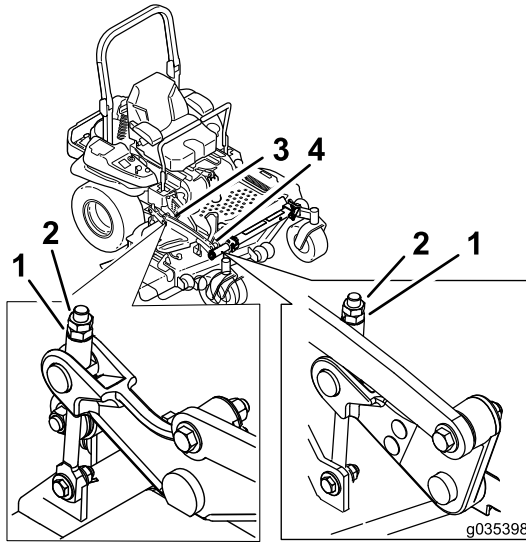

Figure 99
10. Fine-tune the adjustment nut on the front deck-lift assembly by turning it (Figure 99).